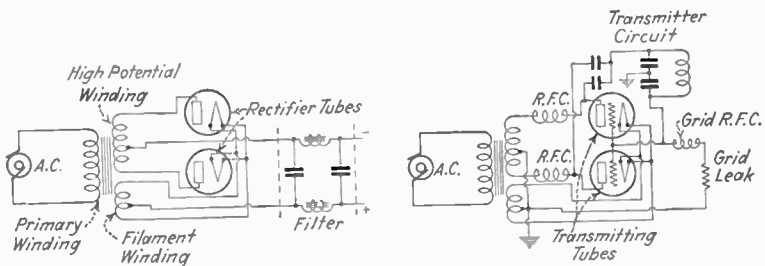

FIG. 7A.
*Ans.* Figure 7A illustrates two ways in which alternating current may be used as a power supply for vacuum tubes.